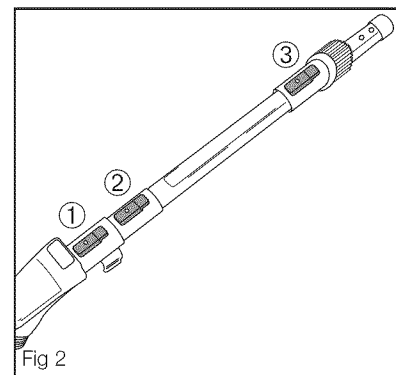

Fig 2
- Extend or shorten the telescopic wand by pressing release button ② (Fig. 2).
- Use crevice tool or turbo nozzle with or without wand. Press button ① to pull wand off handle (Fig. 2).
- Press button ② to shorten wand. Press button ③ and slide dusting brush back into storage position (Fig. 2).